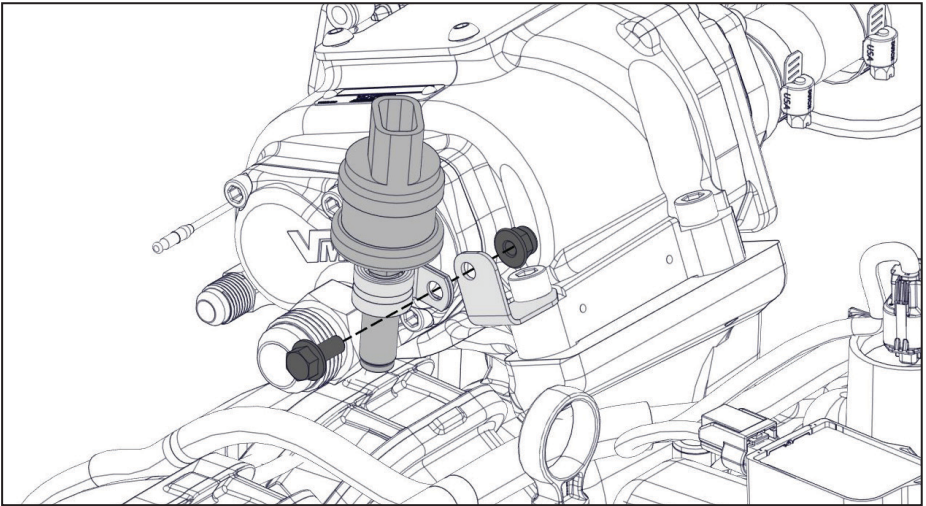

Figure 16 — Install pressure switch
- Using the supplied fasteners and P-clip, mount the pressure switch on the bracket (Figure 16).